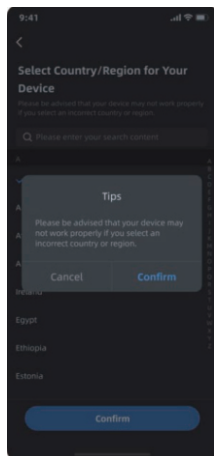

Figure 3
3)Figure 3: When prompted with "Select Country/Region for Your Device", click "Confirm" to go to the registration page.